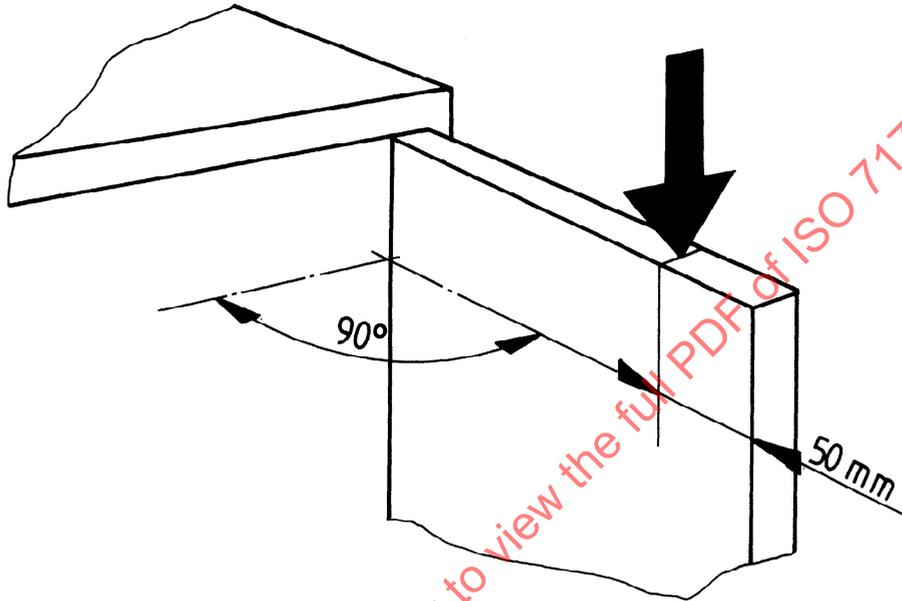

Figure 1 — Application of vertical force on the door
5 Stability with loads on movable parts (vertical force) (see figures 1, 2 and 3)
- on doors: 50 mm from the outer edge (see figure 1);